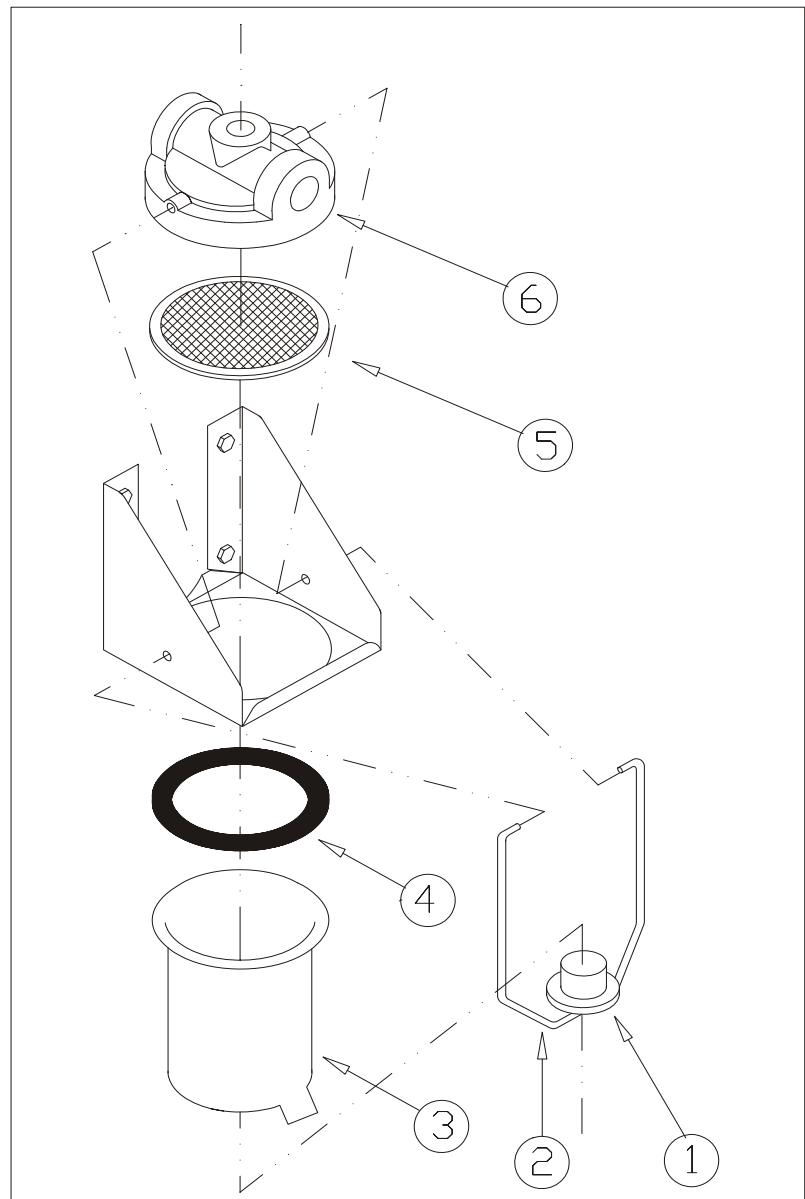

Figure 12 Gascolator Removal/Installation
- 5 Disconnect the fuel drain tube connection from the gascolator bowl (1) by loosening the coupling nut (2).
- 7 Loosen the bail nut (1, Figure 12), move the bail wire (2) to the side and remove the bowl (3).
- 8 Remove the gasket (4) and screen (5) from the strainer housing (6).
- 9 Clean and inspect the screen (5), gasket (4), bowl (3), strainer housing (6), bail wire (2) and bail nut (1). Replace any worn or damaged components.
- 10 Reinstall gasket (4) and screen (5).
- 11 Position the gascolator bowl (3) and bail wire (2). Tighten the bail nut (1) by hand, then continue tightening an additional one nut flat (i.e., 60 degrees) with a wrench. Do not over tighten.
- 13 Safety the gascolator bail nut (1) to bail wire (2) and bowl (3), bail wire (2) to the gascolator bracket with MS20995-C32 Safety Wire, using the “double twist” method, as described in FAA Advisory Circular AC 43.13-1B CHG 1, Chapter 7, Section 7, “SAFETYING”.
- 3 Loosen the knurled nut (1, Figure 12).
- 4 Remove the mounting bracket (2).
- 5 Remove the fuel reservoir (3) and the sealing ring (4).
- 6 Remove the strainer (5) and the gascolator cover (6).